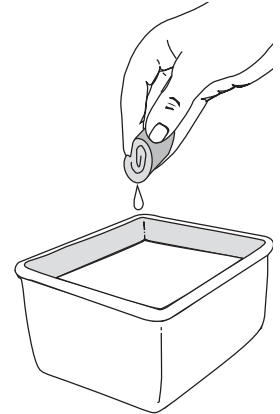

Fig. 21
3. Wash the filter in detergent and water (Fig. 21). Rinse the filter thoroughly. Squeeze out excess water. Allow it to dry completely.